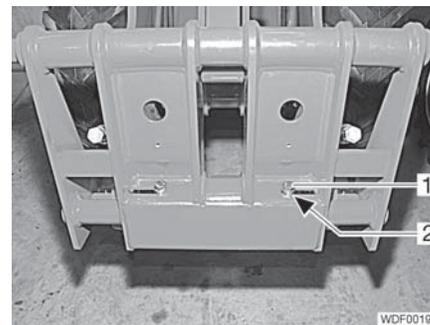

Fig. 217 Pin attachment
- Unscrew 1 screw (Fig. 217,1) for each.
- Remove 1 sleeve (Fig. 217,2) in each case.
- Screw in and tighten the screw (Fig. 217,1) with a sleeve (Fig. 217,2).